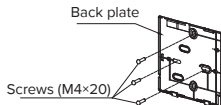

Fig. 3-5
- For surface mounting, fasten the back plate on the wall with the 3 screws (M4×20) and plugs. (Fig. 3-5)